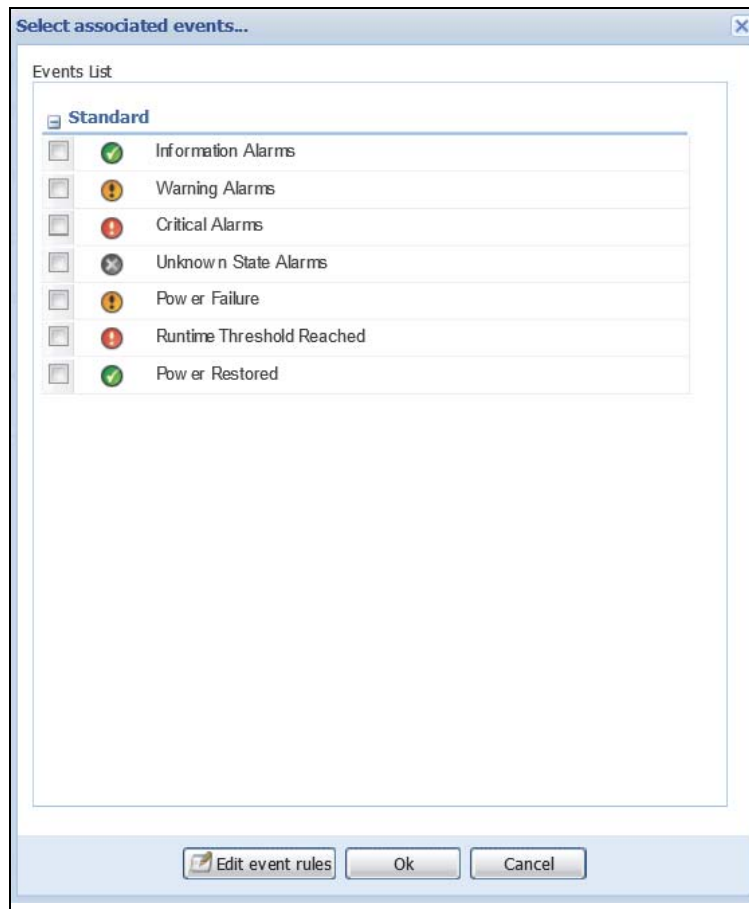

Figure 33. Associated Events
- **List of Events:** Establishes where this action will be executed. Events can be selected by pressing the pencil icon button next to the field and using the Associated Events dialog (see Figure 33).